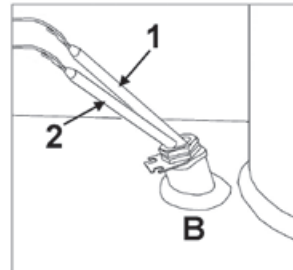

Fig. 14 - Well B
Insert in the well "B" (Fig. 14), the bulb of the 1st stage thermostat (1) and that of the 2nd stage thermostat (2).